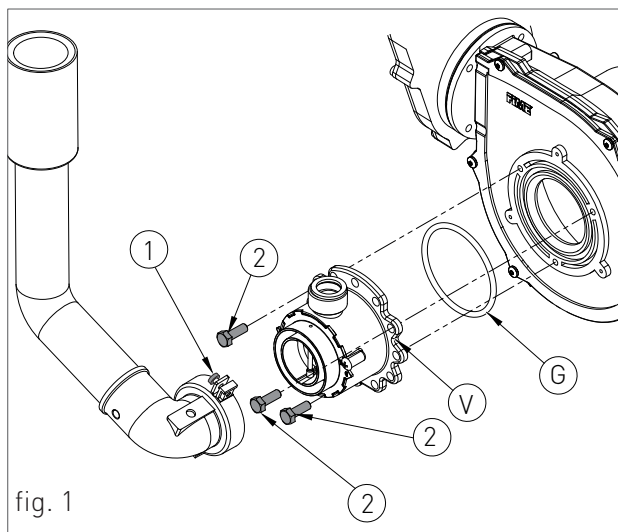
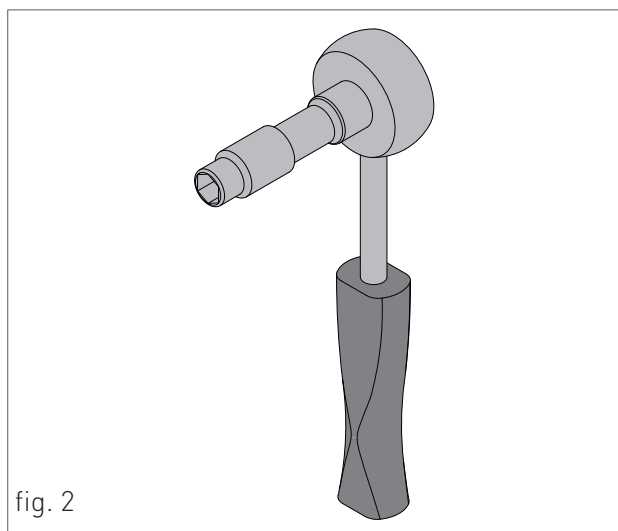

fig. 1
fig. 2
- › loosen the two screws '1' (fig.1) from the fastening bush, and remove the air suction tube;
- › unscrew the three fastening screws '2' (fig.1) of the venturi 'V' (fig.1) using a 10 key, as shown in figure 2;
- › remount the components following the demounting operations in reverse making sure that gasket 'G' is re-assembled as shown in fig.1;